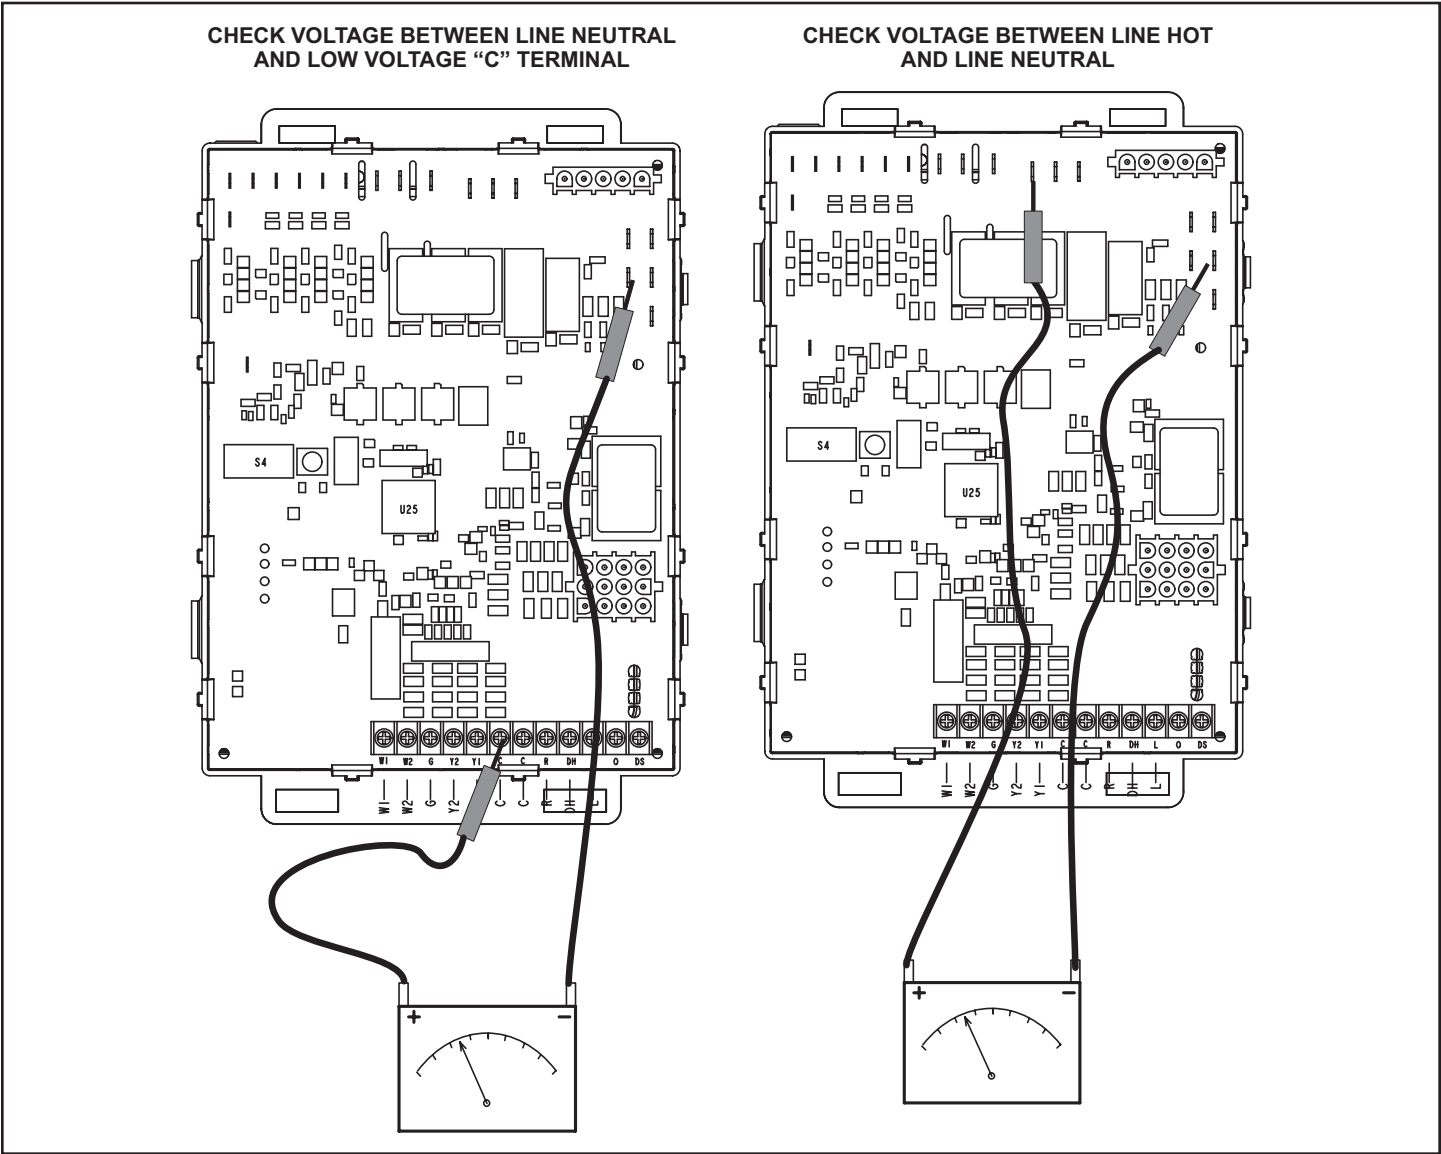

Figure 15.
- 1. Measure the AC voltage between Line Neutral (spade terminals) and “C” terminal (low voltage terminal block) on the integrated control. See Figure 15. A wide variation in the voltage between Line Neutral and “C” as a function of load indicates a poor or partial ground. Compare the readings to Table 14. If the readings exceed the maximum shown in Table 14, make repairs before operating the furnace.
- 2. In addition, measure the AC voltage from Line Hot to Line Neutral (spade terminals) on the integrated control. See Figure 15. This voltage should be in the range of 97 to 132 Vac.